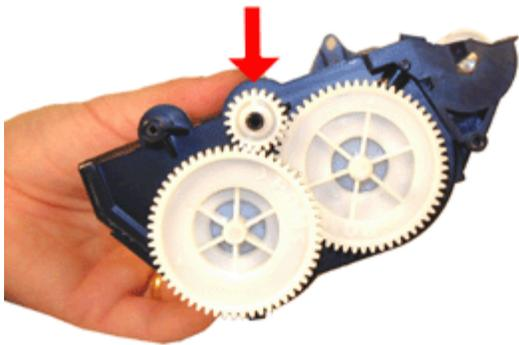

FIGURE 32
27. Install the small gear onto its' shaft. See Figure 32